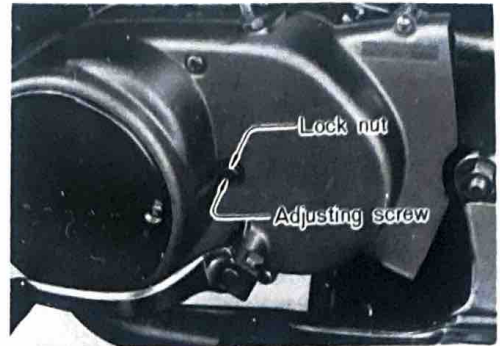

Fig. 4-9-14
(Fig. 4-9-14)
- b. Loosen the adjusting screw lock nut as shown in Fig. 4-9-14.
(Refer to Fig. 4-9-14)